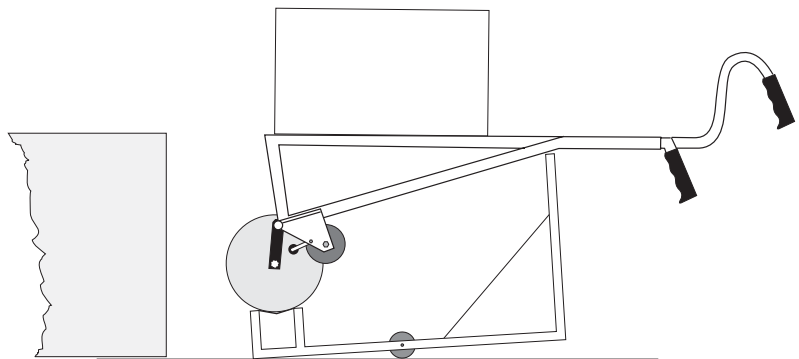

FIGURE 43
4. Unlock the loading shovel's stop bolts and pull it out of the frame entirely (see Figure 43).